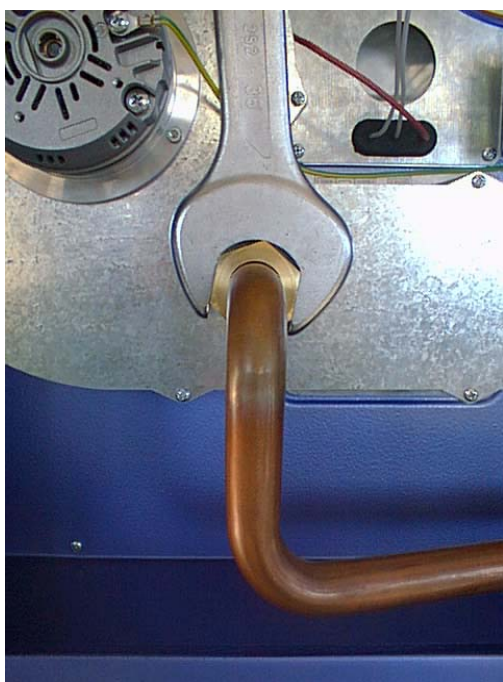

Figure 15
- B) Take off the hexagonal ring nut which clamp the gas pipe to the nozzle support (see figure 15).